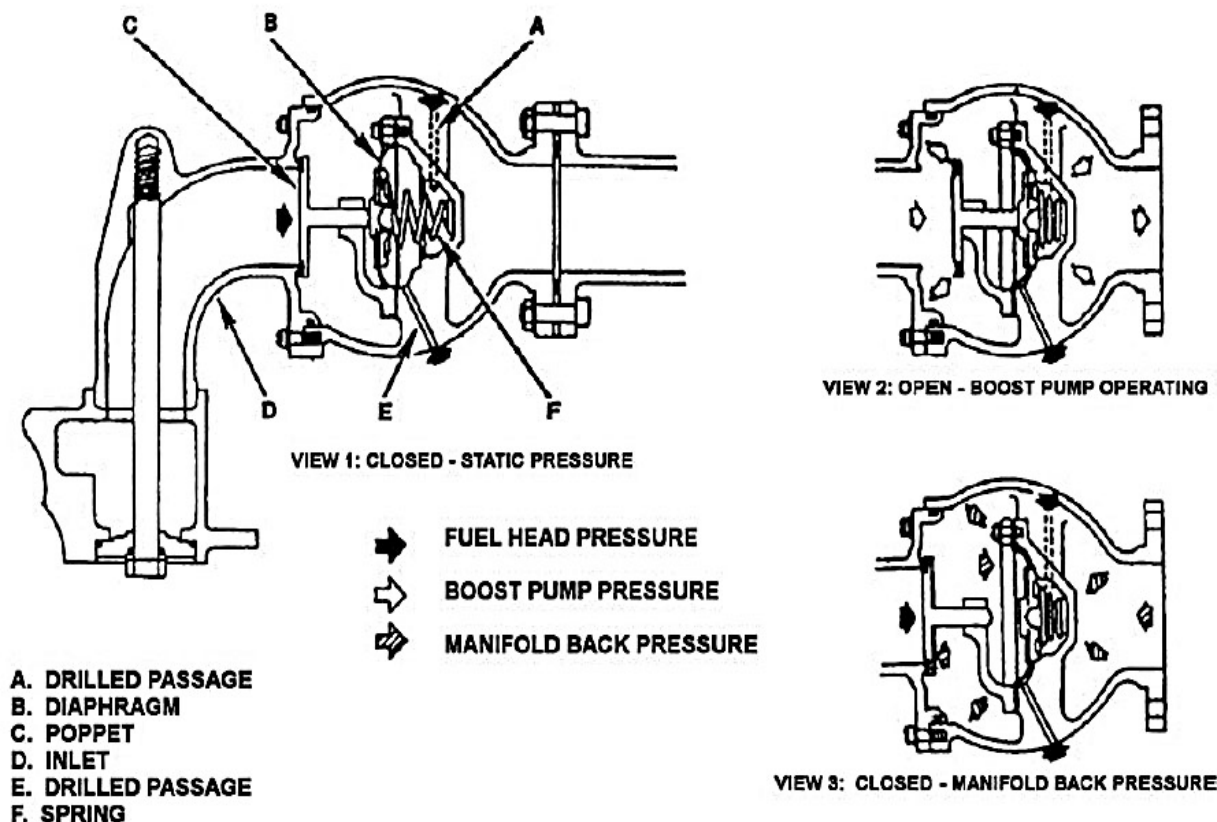

Figure 1-6. Pressure-loaded check valve.
A pressure-loaded check valve is shown in figure 1-6. This type is used where gravity flow through the valve is not desirable. Pressure-loaded check valves are opened by pump pressure only. When the pump is not operating, the poppet (C) is seated (view 1). Gravity flow or head pressure at the inlet (D) to the valve will try to force the poppet from its seat. Since the valve is submerged in fuel, head pressure also enters through the drilled passages (A and E). The combined forces of the spring (F) and the fuel pressure entering the drilled passages act on the diaphragm (B) and keep the poppet closed. When the pump is operating, pressure at the inlet (D) opens the poppet (C). This moves the diaphragm (B) to the right, compresses the spring (F), and allows fuel through the valve (view 2). When manifold back pressure is equal to or greater than pump pressure, there's no flow (view 3). In this condition, reverse flow of fuel is prevented because the poppet is seated.